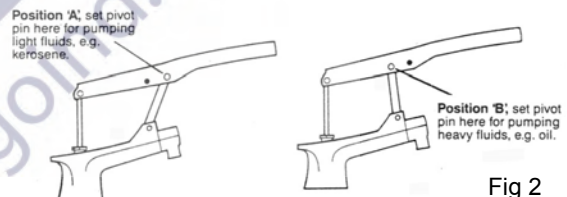

Fig 2
b) Handle is positioned on the wrong setting for heavy oils	Adjust Handle position refer fig 2